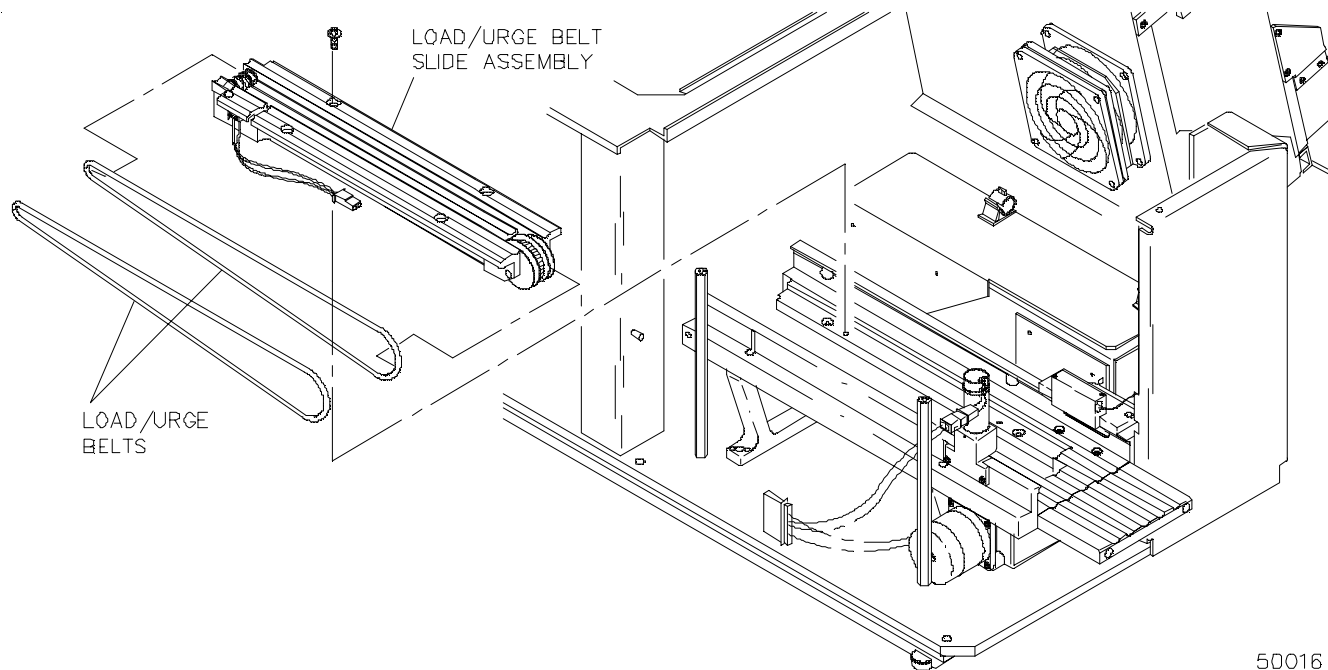

Figure 4-16. Load Urge Belts
2. Remove two orange Load Urge Belts from Belt Slide Assy (**Figure 4-16**).